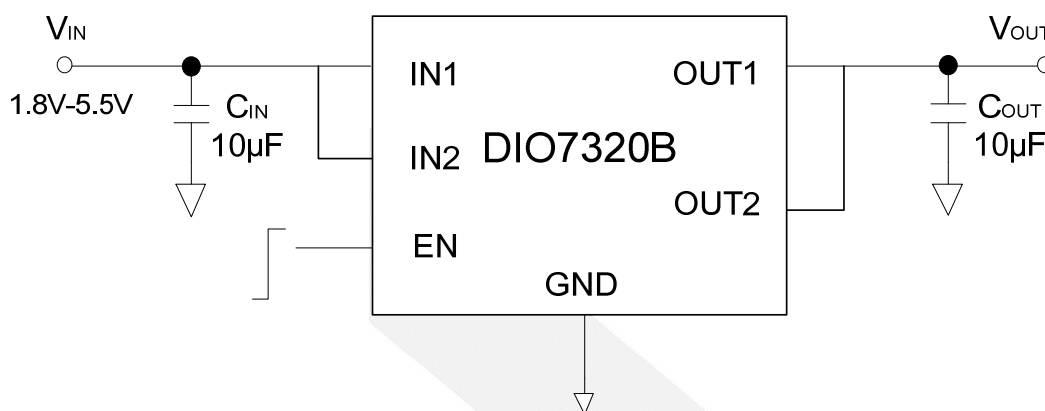

Figure 2 Typical Application Diagram
- 28m Ω N-MOSFET at Figure 2 application